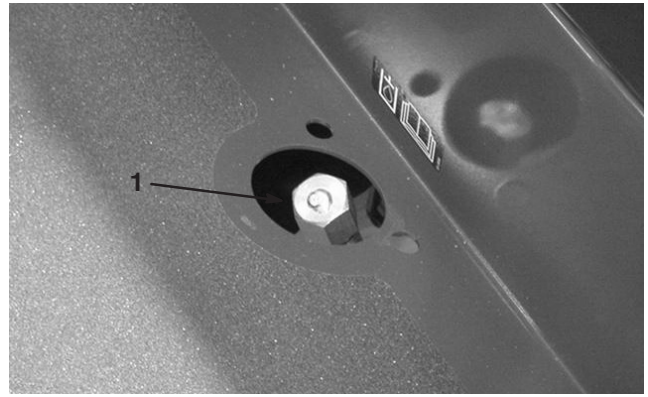

Figure 16
2. Remove dipstick cap (Fig. 16) from filler neck and wipe it with a clean rag. Screw dipstick cap finger-tight onto filler neck; then remove it and check level of fluid. If level is not within 1/2 inch (13 mm) from the groove in the dipstick (Fig. 16), add enough high quality hydraulic fluid to raise level to groove mark. Do not overfill.